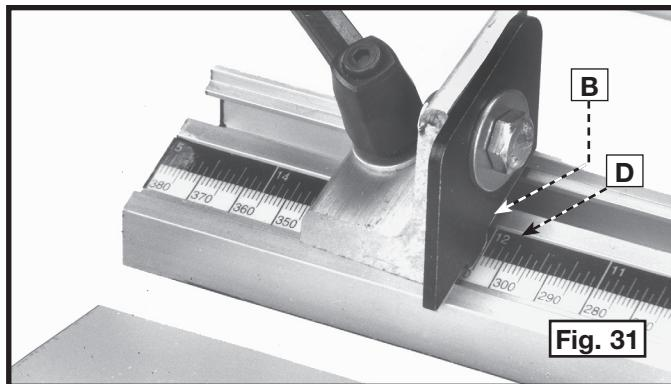

Fig. 31
The left stop is shown in Fig. 31. The stop is positioned 12" (304.8 mm) to the left from the center of the fence. You can read the distance on the English/Metric scale (D). If you don't use the stop (B), place the workpiece against the fence. The stop (B) automatically moves to the rear allowing the workpiece to be placed flush against the fence.